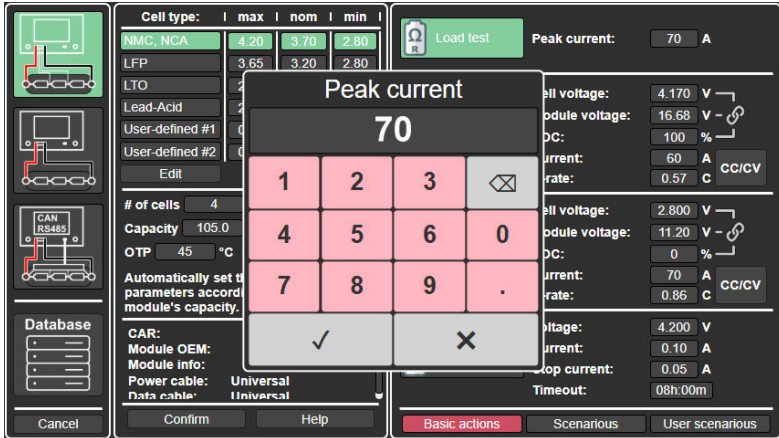

Figure 19
4) Set the **test current value** (see Section 6.4.1 for details). Clicking on the current value opens a window where it can be edited (see Fig. 19).